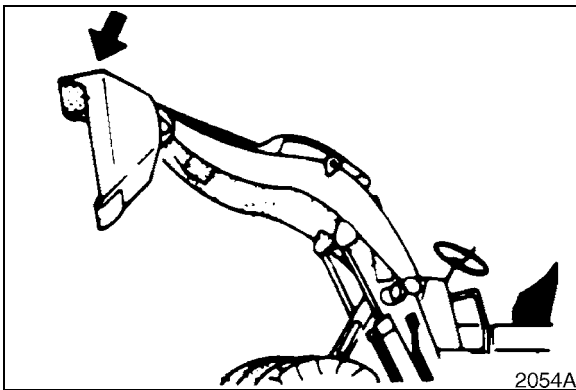
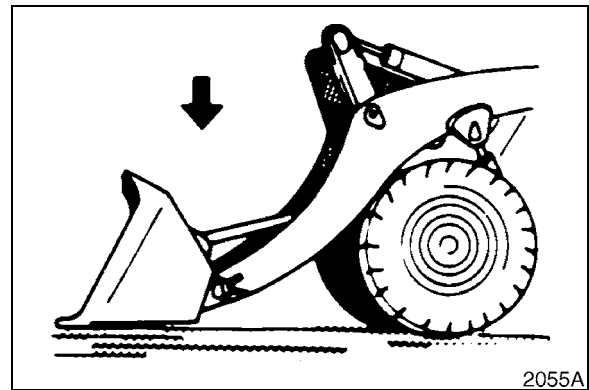

Figure 86
Figure 87
3. Without starting engine, operate controls to dump bucket. (Figure 86). Then operate controls to lower boom. (Figure 87). This will drain oil out of boom and bucket cylinders.